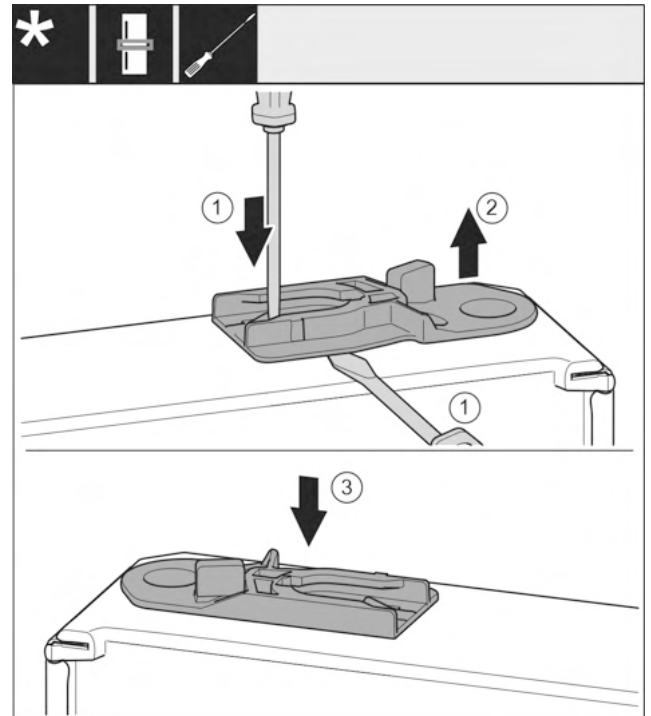

Fig. 37
- ▶ Pull out the guide bushing: Press the tab Fig. 37 (1) with the slotted screwdriver while running the slotted screwdriver under the guide bushing Fig. 37 (2) at the same time.
- ▶ Insert the guide bushing Fig. 37 (3) supplied in the scope of delivery on the other side of the housing.